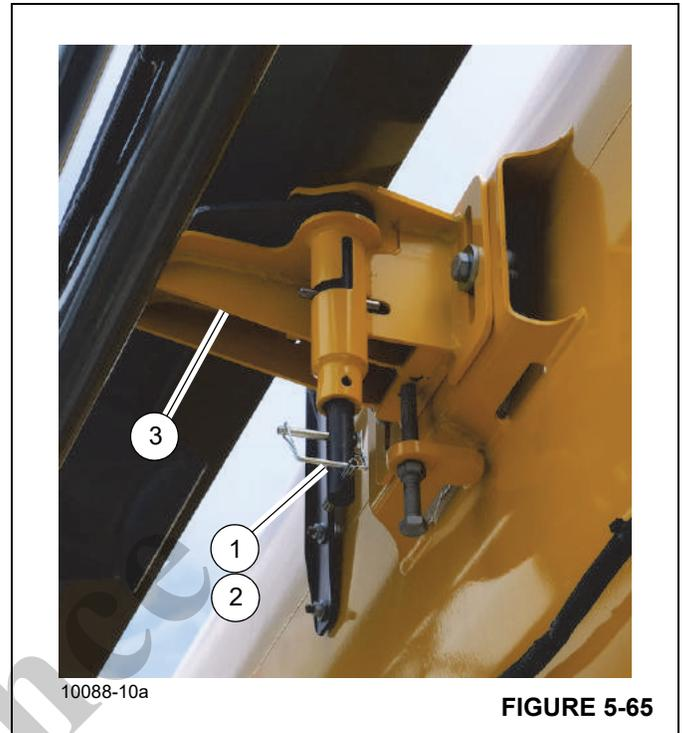

FIGURE 5-65
- a. Remove retaining clip (1, Figure 5-65) from pin (2) at fly section stowage bracket (3).
- b. Turn pin (2) clockwise, allowing the spring-action pin to lock into the fly section.
- c. Reinstall the retaining clip (1) into the pin (2).